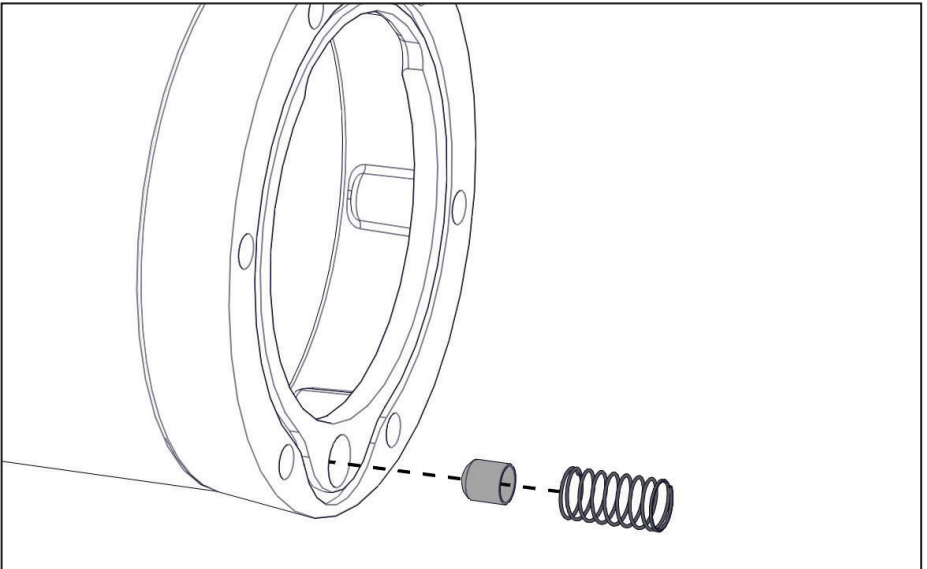

Figure 26 — Remove small spring and thimble screen
- ☐ Remove the small spring and thimble screen. The screen can be removed by carefully pushing it out of the oil scavenge hole from the inside of the AOST (Figure 26).